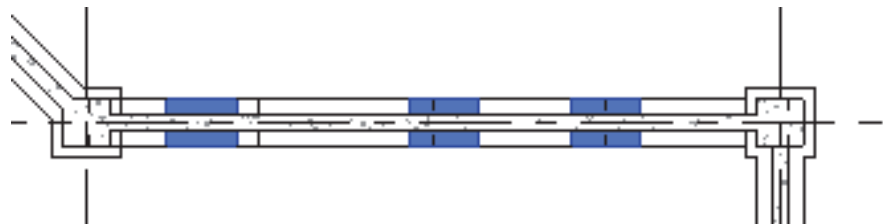

Figure 1-98
12. Place three footings along the wall, similar to those shown in Figure 1-98.